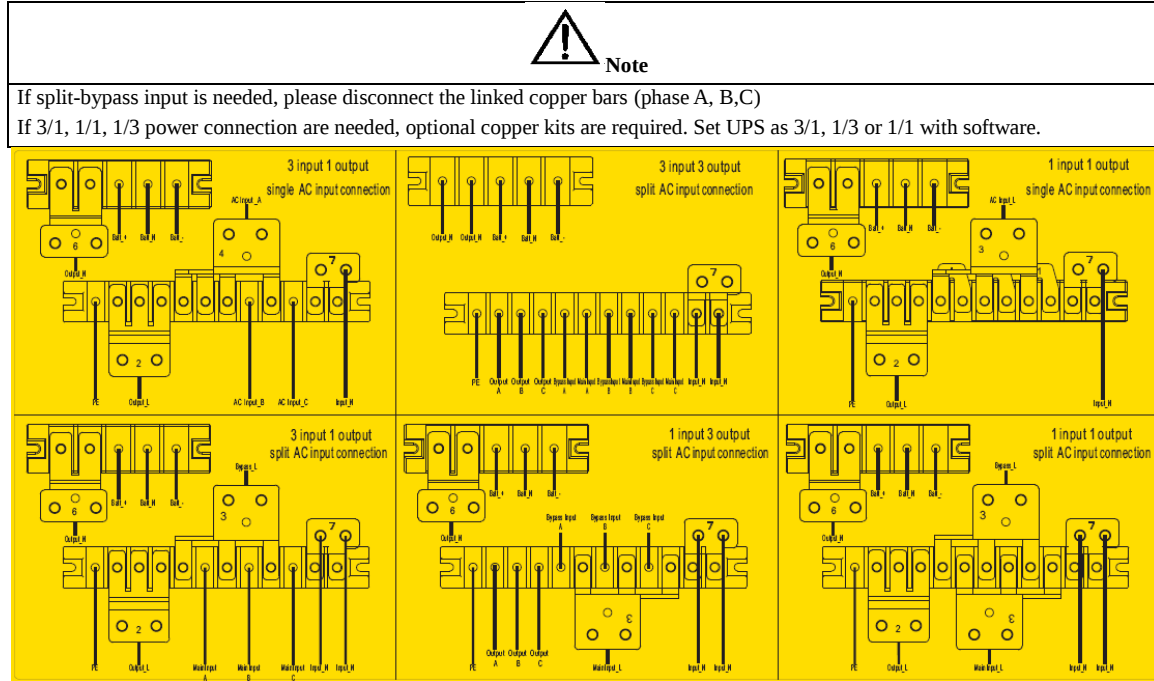

Fig.B- 1: Power Connection of 2 slots and 4 slots
Fig.B-1 and Fig.B-2 illustrate the power connection of modular UPS in what are known as the 3/3, 3/1, 1/3 and 1/1 configuration.
- **3 phases in, 3 phases out** (common input) is default setting. If need **3 phases in, 3 phases out (split bypass input)**, remove connecting copper bars between bypass and main input as Fig.B-1 and Fig.B-2.
- If need to set UPS as **3 phases in, 1 phase out**, connect cables as Fig.B-1 and Fig.B-2 as needed. Then set UPS with software as below:
- If need to set UPS as **1 phase in, 1 phase out**, connect cables as Fig.B-1 and Fig.B-2 as needed. Then set UPS with software as below:
- If need to set UPS as **1 phase in, 3 phases out (split bypass input)**, connect cables as Fig.B-1 and Fig.B-2 as needed. Then set UPS with software as below: